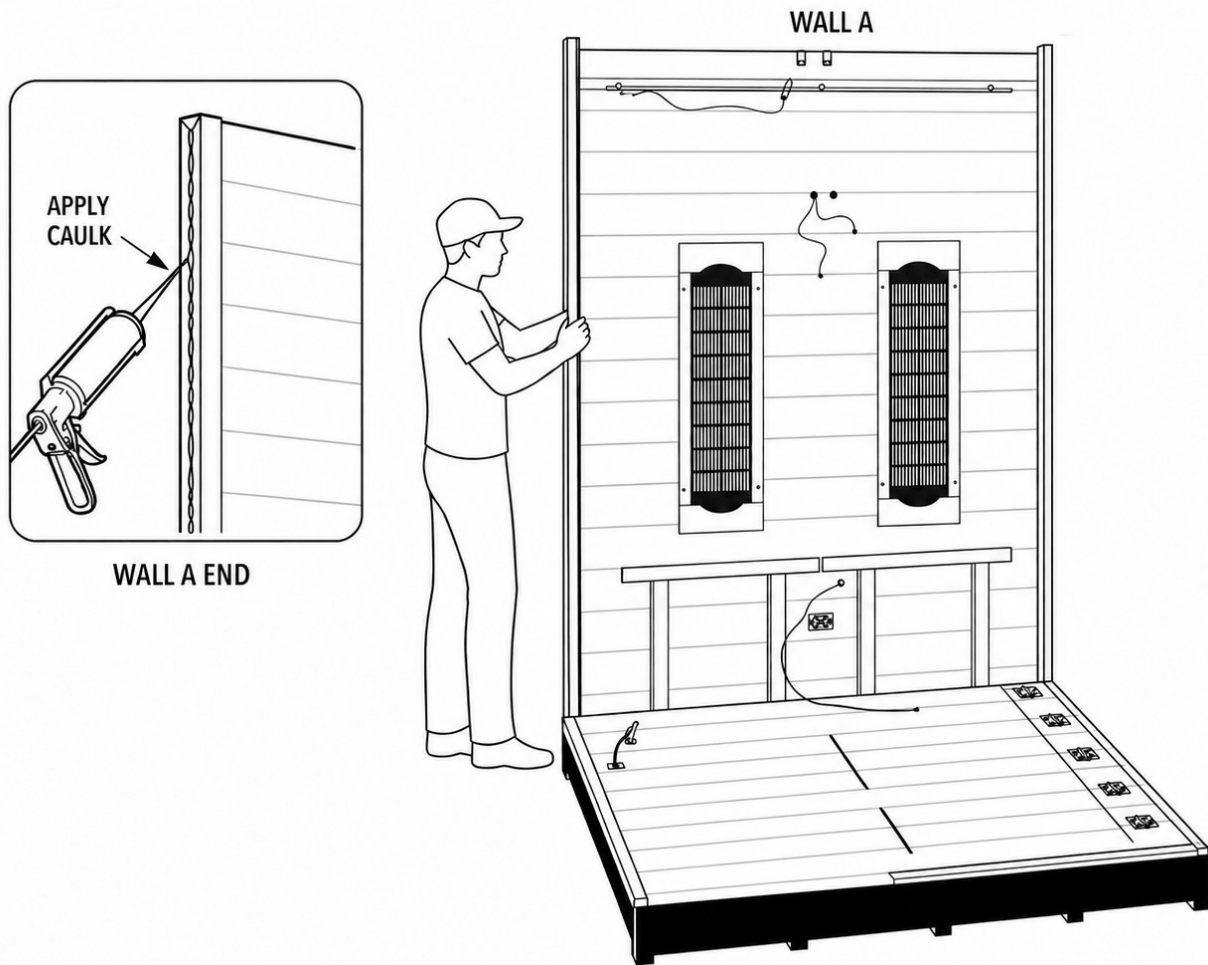

Figure 6. Side Wall (A) standing against the Floor Panel edge, with caulk applied to its corner end.
- Identify the Side Wall (A): the solid wall with two full-spectrum heaters and the side bench outlets.
- Run a full-length bead of caulk down the vertical end of Wall A that will meet the Back Wall (B).
- Stand Wall A on the ground against the Floor Panel edge on side A, flush against the floor edge, not on top of it, and have one person hold it upright (Figure 6).